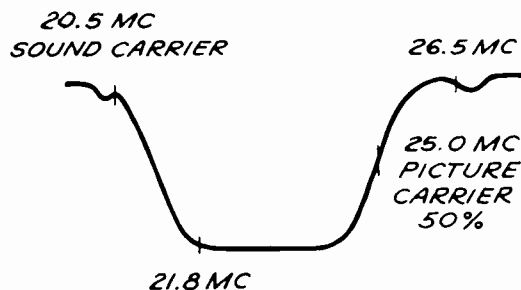

Figure 1. I-F Response Curve
14. Observe the waveform obtained on the oscilloscope; compare it with the waveform shown in Figure 1. Slight retouching of the I-F adjustment may be necessary.